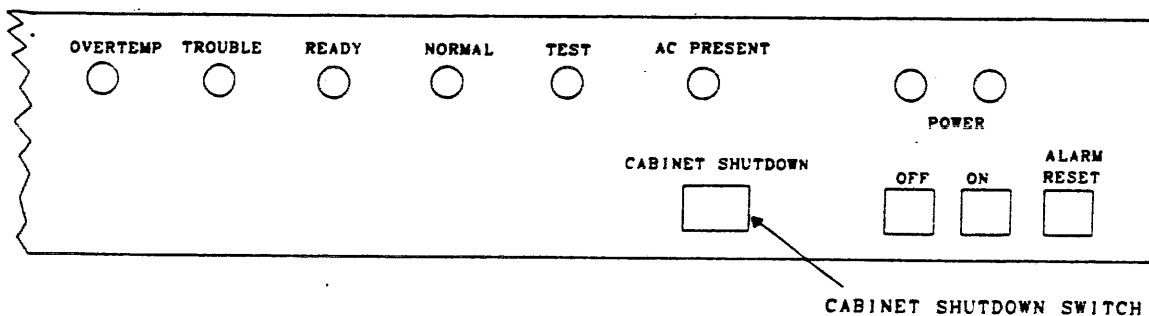

FIGURE 4-1. OPERATOR CONTROL PANEL
5. Ensure that the CABINET SHUTDOWN switch, located on the Operator Control Panel is in the out position. See Figure 4-1.